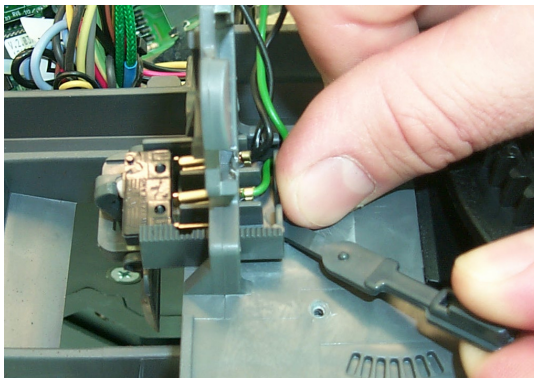

Fig. 13
- b) Lift the doser adjustment lever slightly and push the doser switch fitting out of the guide towards the left (front view in Fig. 13).